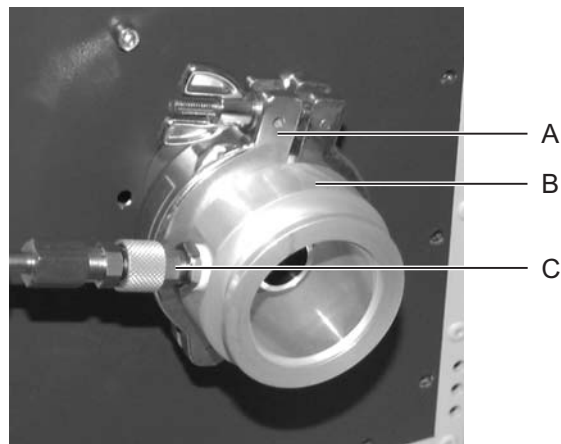

Figure 21: Purge gas connection tube for beam guidance system
2. Connect the purge gas connection tube (see Figure 21, B) with the connection flange on the laser device's right-hand side using the provided clamping ring (A).
4. Connect the purge gas line (see Figure 21, C) with the purge gas connection tube.